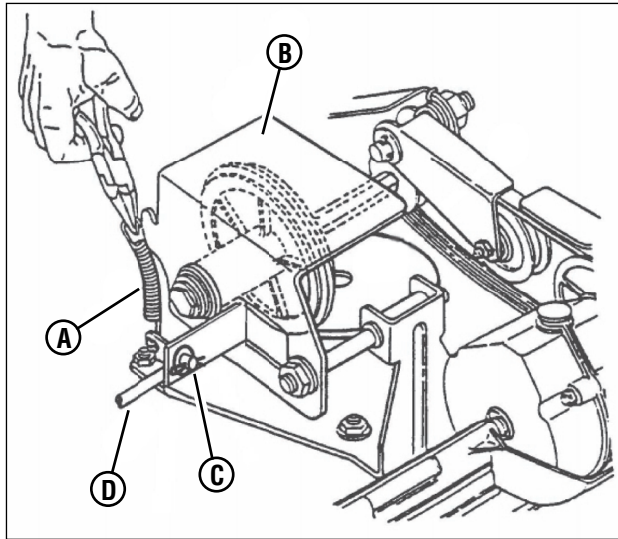

Figure 28: Adjusting the driven disc
2. Remove the driven disc spring (A, Figure 28) from the driven disc assembly (B). Also remove the pin and washer (C) from the transfer rod (D), and remove the end of the transfer rod from the hole in the driven disc assembly.
1. Remove the pin and washer (C, Figure 28) from the transfer rod (D), and remove the end of the transfer rod from the hole in the driven disc assembly.